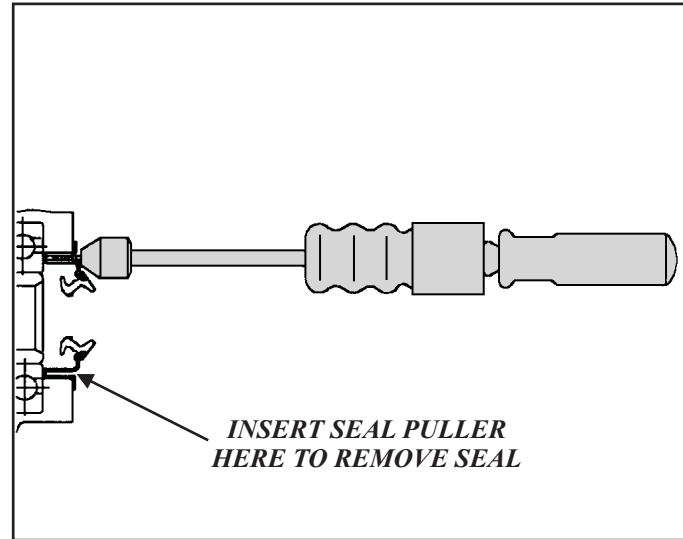

Figure 79
31. Remove the axle seal as shown in figure 79 in the converter housing using Saturn's tool SA9133T or equivalent using the following procedure:
- b) Remove the seal by threading the puller through the steel part of the seal body as close to the outside diameter as possible without damaging the seal bore in the case (See Figure 79).